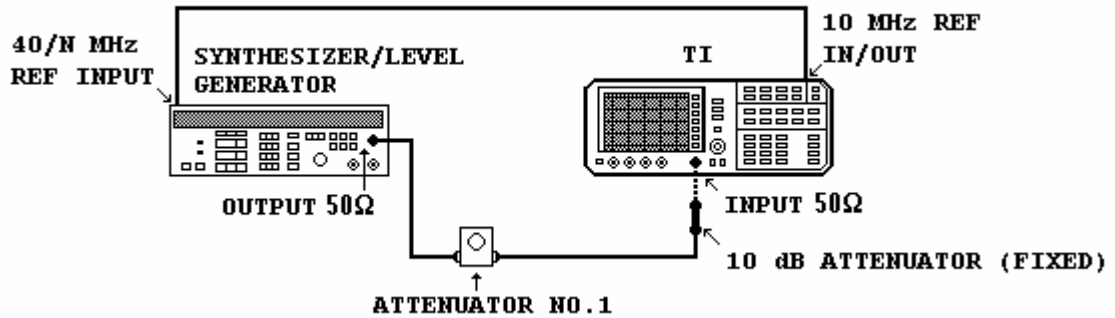

Figure 4. IF gain uncertainty - equipment setup.
(1) Connect equipment as shown in figure 4.